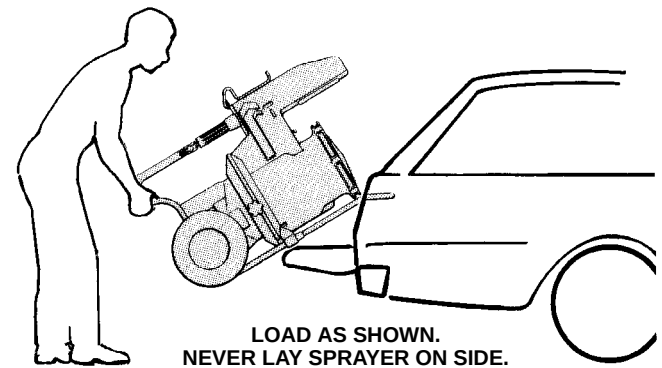

Fig 8
- 10 To transport the sprayer, empty the wet-cup, or reduce the level of Throat Seal Liquid to 1/3 full or less and stuff a rag into the wet-cup. Load the sprayer as shown in Fig 8. To avoid leakage of hydraulic fluid, never lay the sprayer on its side.